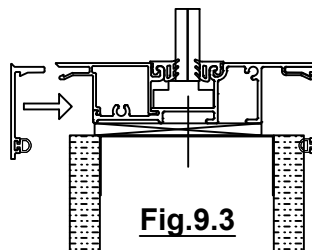

Fig.9.3
E. At the wall sill condition install horizontal trim. See Fig. 9.3.